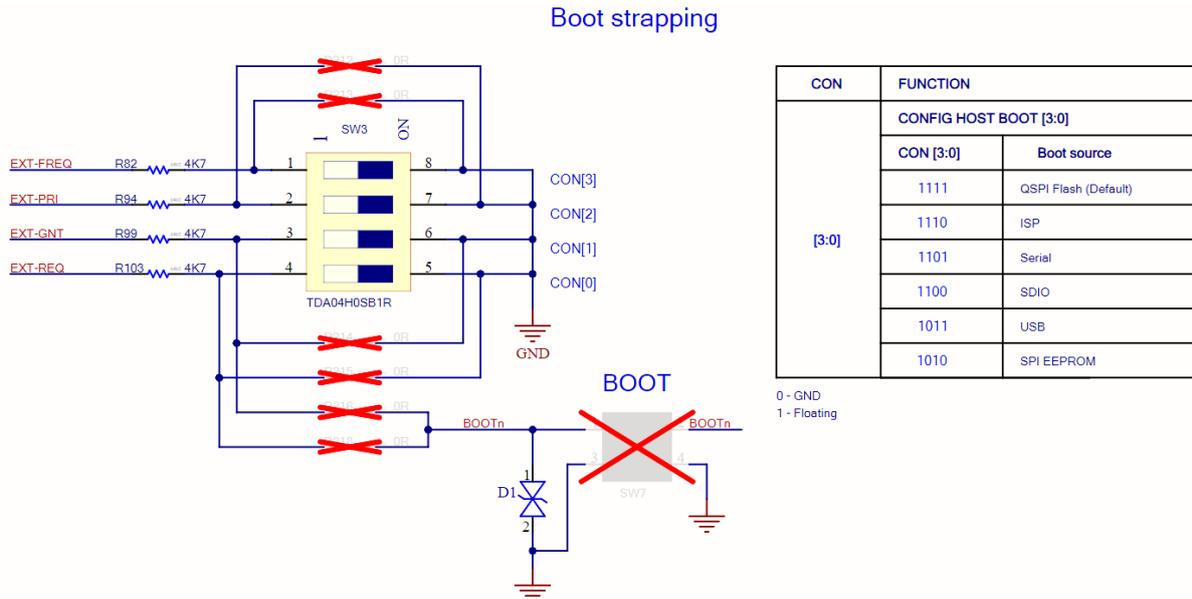

Figure 16: Bootloader schematic
Figure 16 shows bootloader configuration and sources available to user. Several signals and DIP switch combinations used to configure the EVK so it can boot in several scenarios.
- Four active-high signals (**EXT-FREQ, EXT-PRI, EXT-GNT, EXT-REQ**) are used to select boot source. They correspond to CON3, CON2, CON1 and CON0 respectively in the table shown in Figure 16.
- For example, to select ISP as boot source, GND the signal **EXT-REQ** on SW3. Alternatively, other configurations are possible as described in the table data shown in Figure 16.